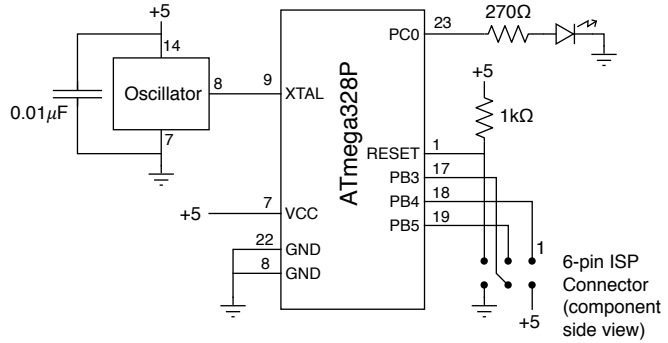
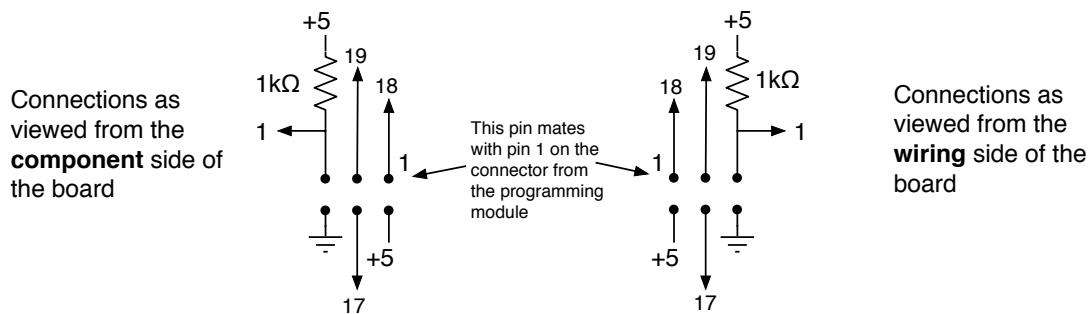

Figure 2: Wiring diagram for ATmega328P
Figure 7: Layout of ISP pins from both the component and wiring sides of the board
3. Install the 0.01 μ F capacitor close the oscillator and wire it between the power and ground pins on the oscillator socket (14 and 7) as shown in Fig. 2.
4. Using the wire-wrapping tool, make the wiring connections to the microcontroller socket for power, ground and the clock as shown in the schematic in Fig. 2.
Wire the six pins to the microcontroller according to Fig. 2. Figure 7 shows the how the pins are laid out when viewed from both the component side of the board and from the wiring side. Make sure you are following the correct figure when doing the wiring. When looking at the pins on the **component** side, pin one should be in the upper right corner so it will mate correctly with the connector on the programming module. For more details on wiring the programming connector see the section on the "SPI Programming Interface" in the class handout on the ATmega328P microcontroller.
Install the LED and current limiting resistor somewhere on the board and wire them to pin 23 of the microcontroller as shown in Fig. 2. These will only be used for the first lab assignments so it isn't too important where you put them. The cathode of the LED is marked by a flat spot on the edge of the LED and this side should go towards ground.